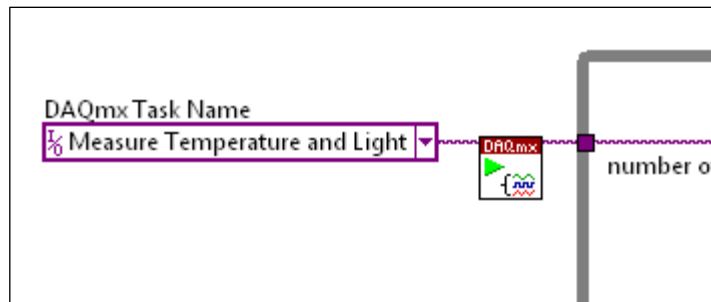

Figure 15. Replace the configuration VIs and input parameters with the DAQmx Task Name Constant.
- h. Wire the task from the output of the **DAQmx Task Name Constant** to the input of the **Task / Channels In** input of the DAQmx Start Task.vi as shown in Figure 15.